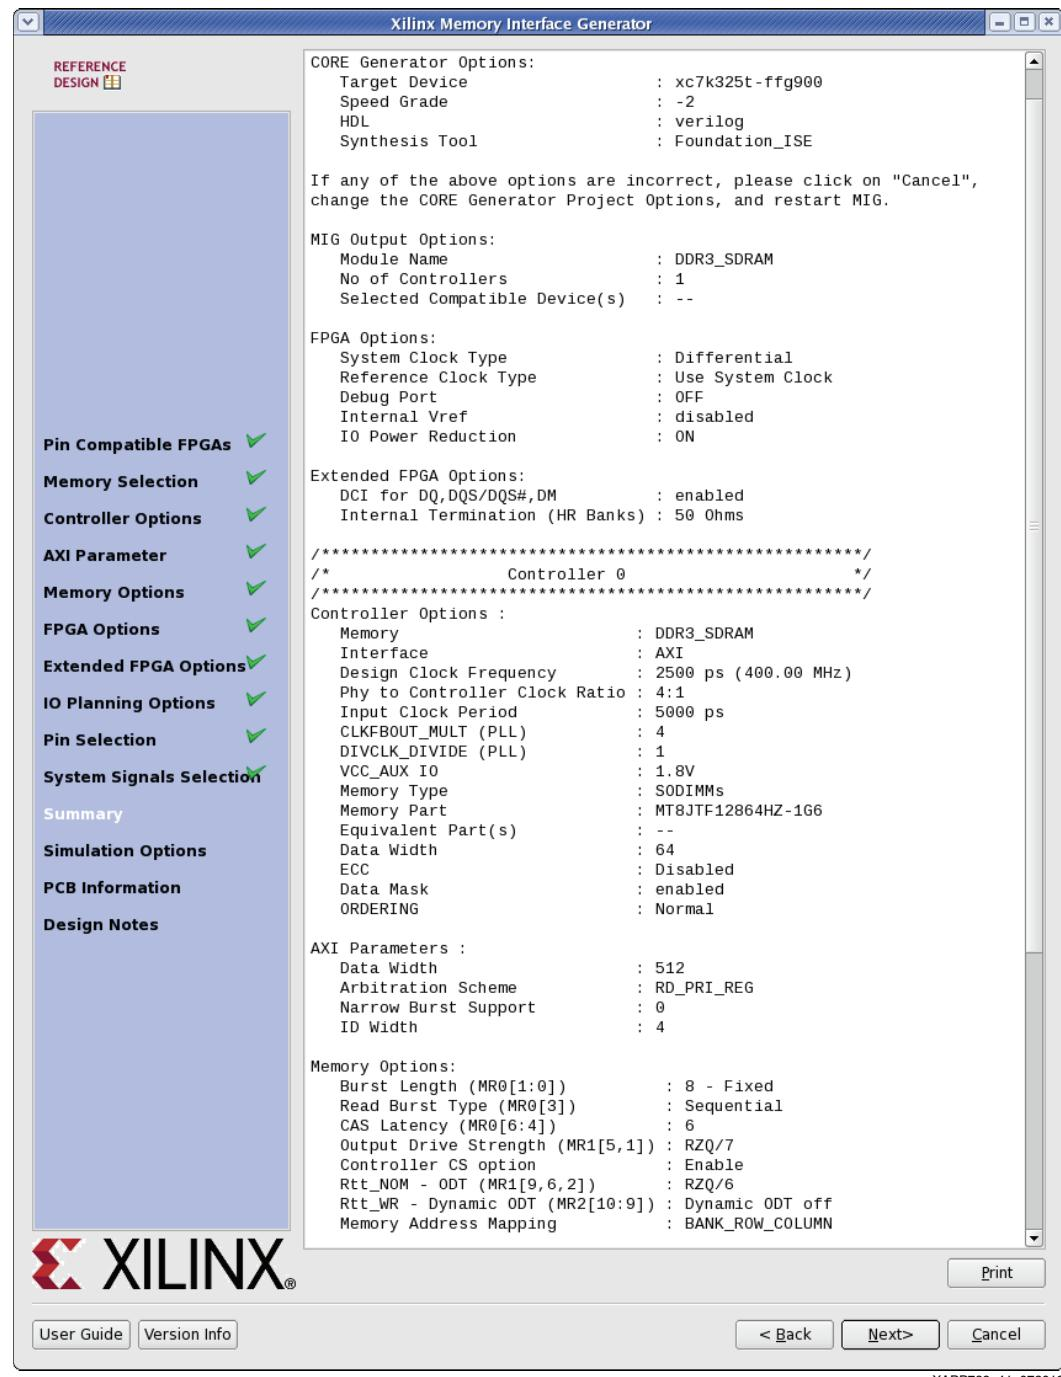

Figure 41: MIG Summary
29. The Summary page shows the overall IP configuration settings. Click **Next** to continue (Figure 41).